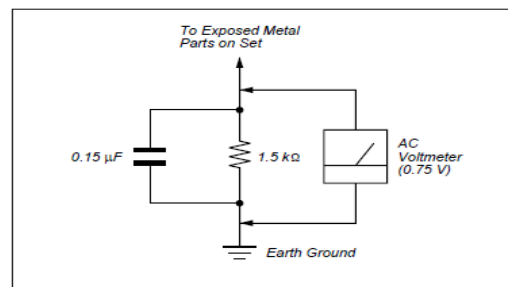

Figure 2. AC voltmeter to check AC leakage
3) Measuring the voltage drop across a resistor by means of a VOM or battery operated AC voltmeter. The 'limit' indication is 0.75V so analog meters must have an accurate low voltage scale. The SIMPSON'S 250 and SANWA SH-63TRD are examples of passive VOMs that are suitable. Nearly all battery operated digital multimeter that have a 2 VAC range are suitable. (see Figure 2.)